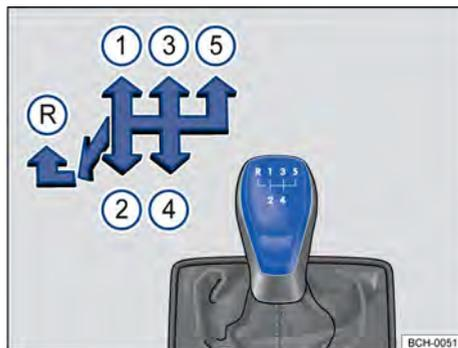

Fig. 90 Gear shift pattern of a 5-speed manual gearbox. ▶
Each gear position is illustrated on the gear lever → Fig. 90.
- Push the gear lever fully to the left and then to the front in the reverse gear position → Fig. 90 (R).